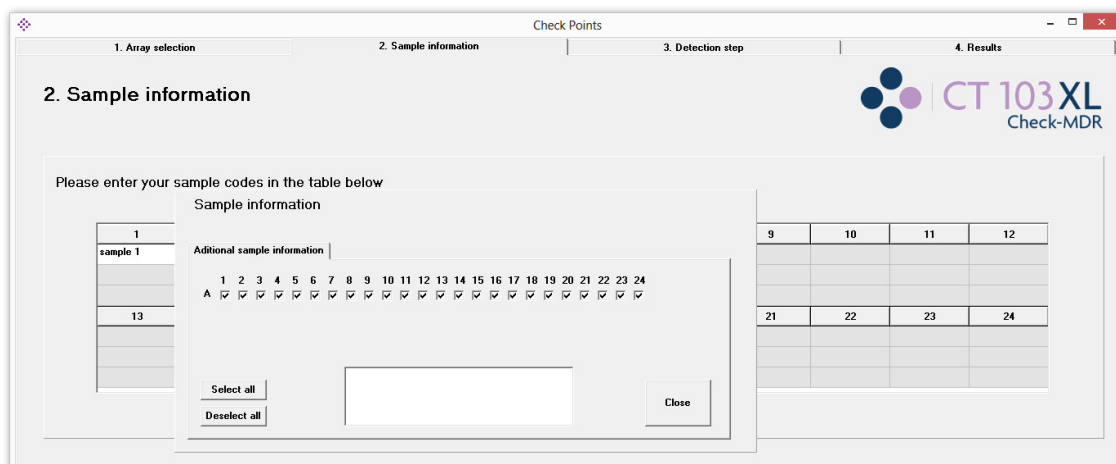

Figure 4: Pop-up for additional sample information.
- Additional remarks may be added per sample (optional), when sample references have been filled out. Double click on one of the sample reference fields. A pop-up will appear (see figure 4) allowing remarks to be added to individual or all samples by marking the box(es) of the sample(s) in question.